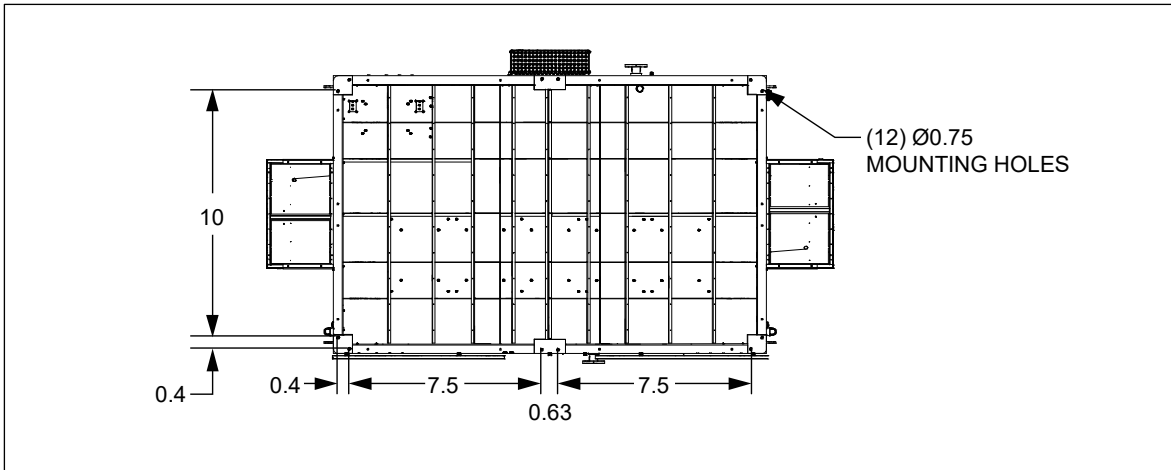

Figure 3 Mounting Hole Dimensions (in feet)
- See Figure 3 for mounting hole dimensions.